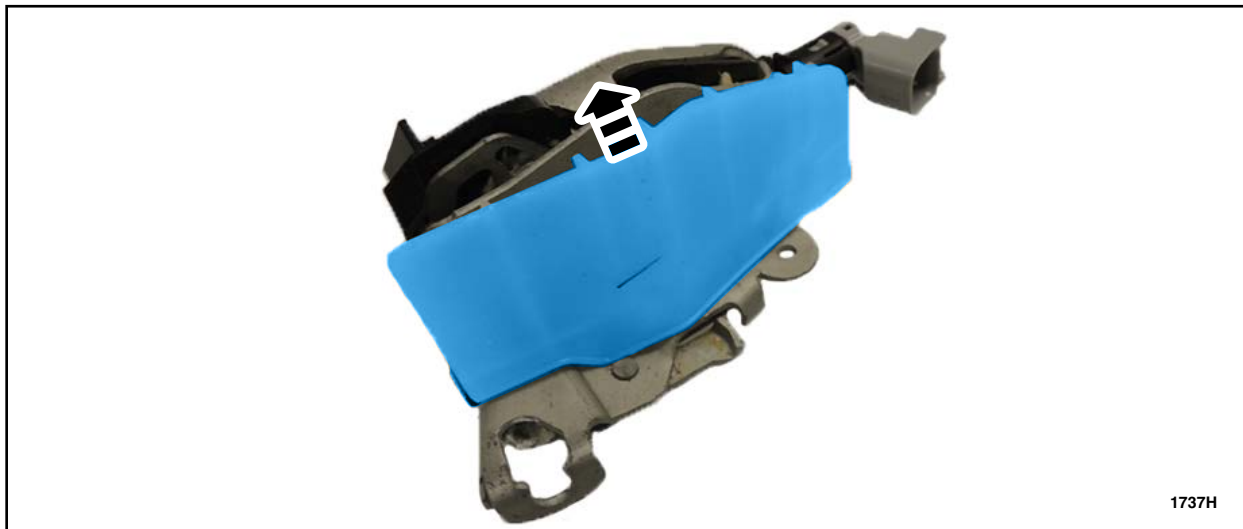

FIGURE 16
NOTE: Some F-150 SuperCab vehicles may be equipped with a smaller water shield than what is being installed in this safety recall. The smaller shields must be removed and replaced. See Figure 16.
6. If equipped, remove and discard the existing lower door latch water shields. See Figure 16.